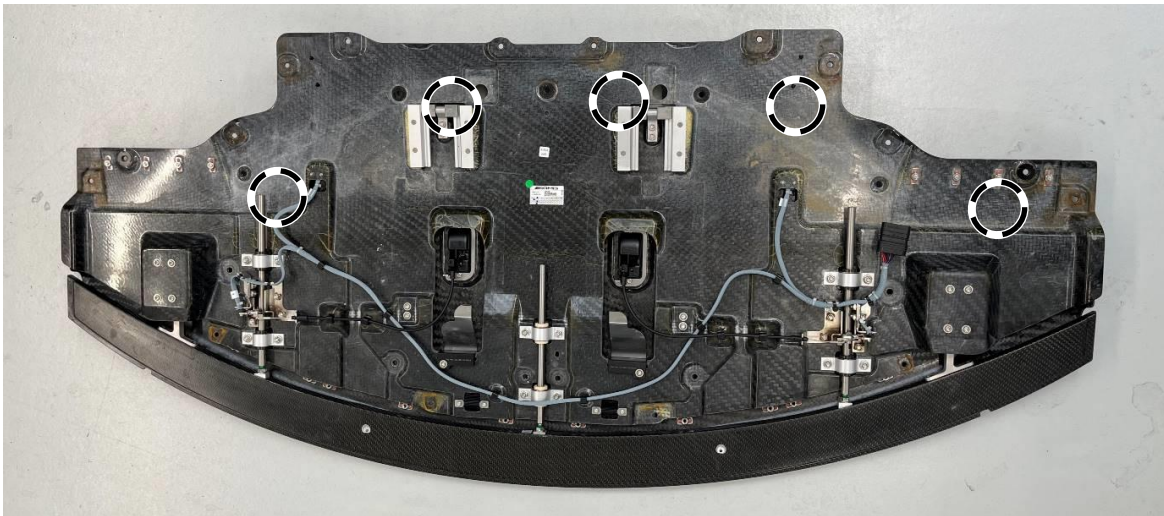
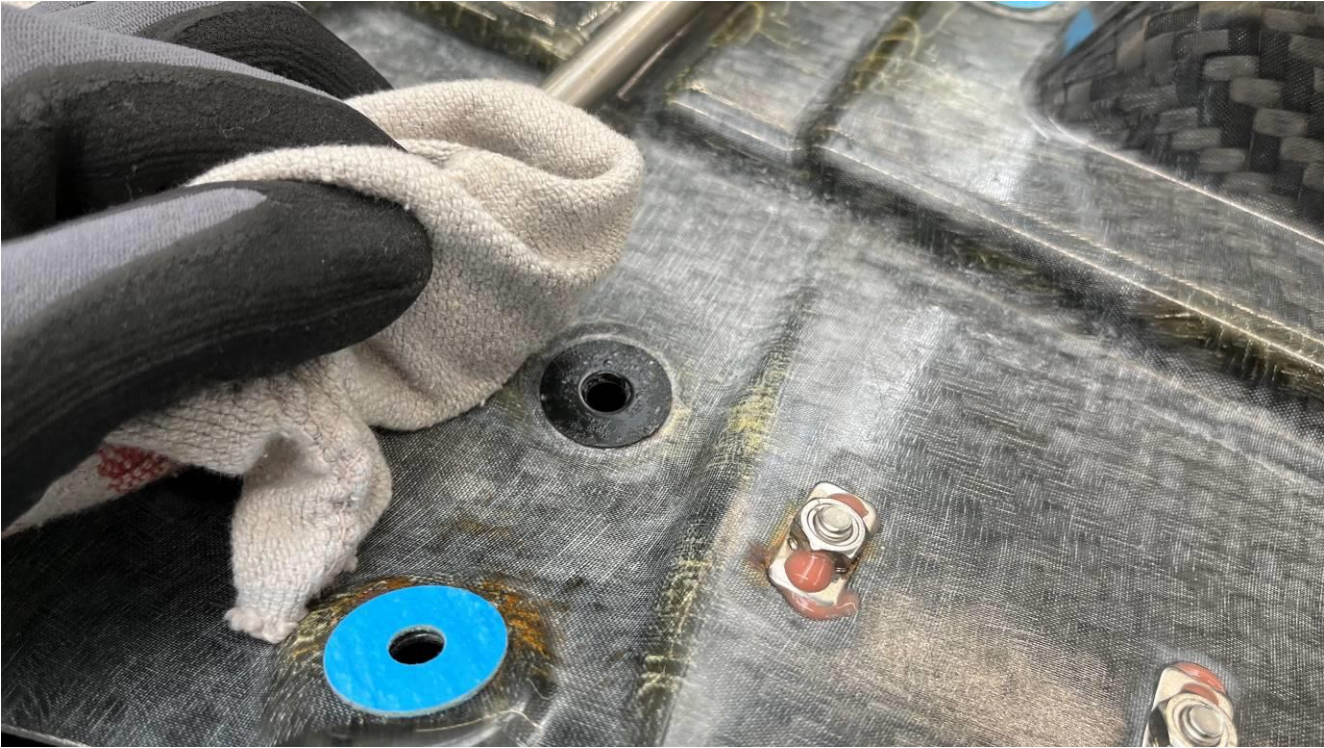

Figure 2
Figure 12
2. Clean 5 threaded connection points (figure 2) of removed front diffuser with **isopropanol** and check for corrosion.
1. Clean all 5 attachment points (figure 2) of front diffuser with isopropanol and allow to dry (figure 12)